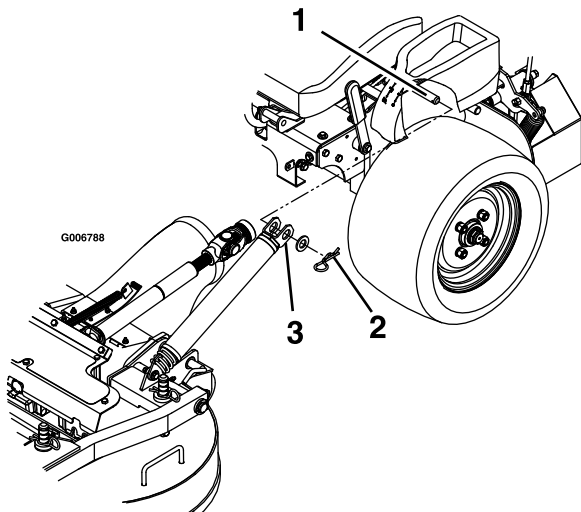

Figure 66
3. Remove the hairpin cotters and washers at the top of the deck-lift-assist spring on each side of the machine (Figure 66).
8. Install the springs onto the spring anchor pins under the left and right consoles and secure with a washer and hairpin cotter (Figure 66).